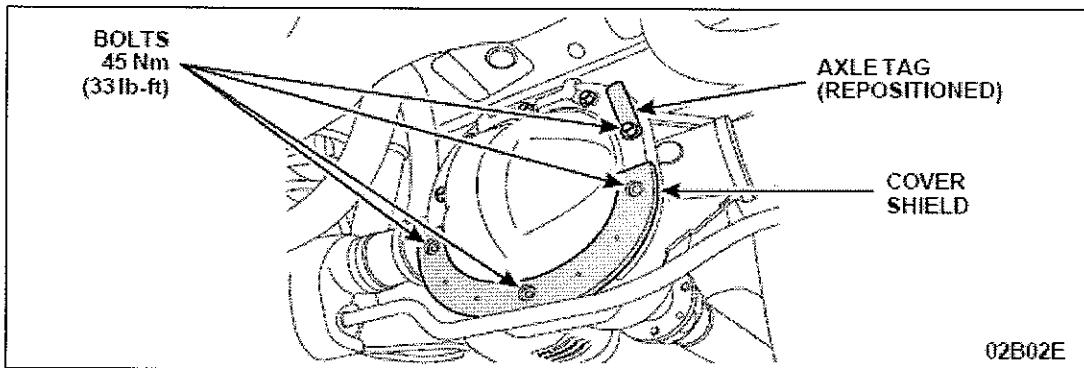

FIGURE 5
Reposition the axle and/or fluid identification tag as necessary. Hand-tighten the bolt(s) at this time. See Figure 5.
6. Remove and discard the three (3) differential cover bolts located at the 4, 6 and 8 o'clock positions. Position the differential cover shield and press into place. The cover should fit snug over the existing bolts. Install the three (3) new bolts. Tighten all loosened or removed bolts to 45 Nm (33 lb-ft). See Figure 5. Be sure to also tighten the axle tag bolt(s) to specification.